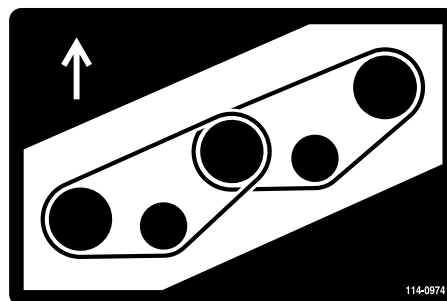
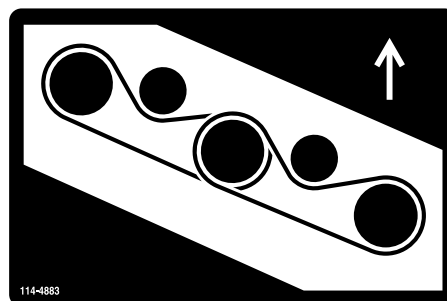

Figure 128
Figure 129
7. Route the new belt around the spindle pulleys and idler-pulley assembly (Figure 128 and Figure 129).